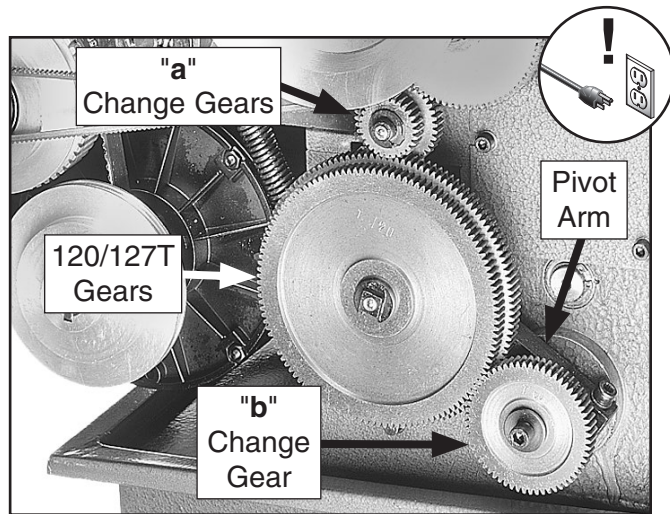

Figure 48. Change gears.
In addition to setting the feed rate lever, the change gears shown in **Figure 48** work with the feed rate lever to provide the various powered feed rates for the carriage.
3. Loosen the cap screw that secures the pivot arm, then lower the 120/127T gears away from the "a" gears (see **Figure 48**).